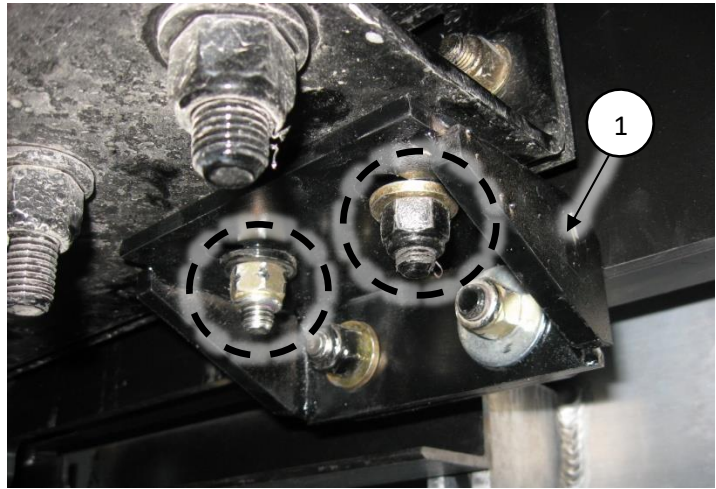

Figure 5 – HERD Lower Angle Bracket Installation (Passenger Side Shown)
3. **For 6-bolt mounting pattern truck:** Mount the HERD lower angle bracket (Part of Item 1) onto the bottom of the truck crossmember as shown in the Figure 5. Use the OEM hardware retained from step 2 to attach both brackets.